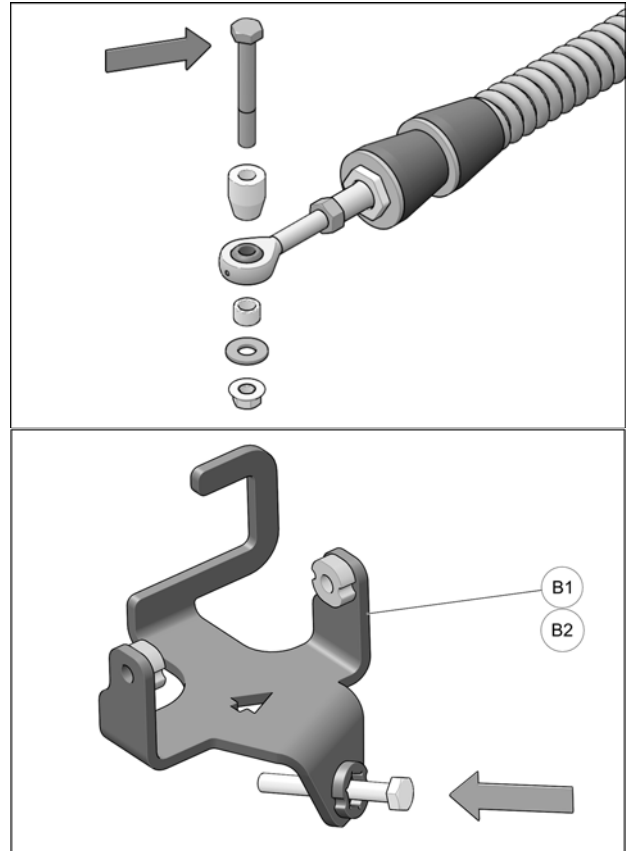

Fig. 3
4. Remove bolt, washers and spacer bushings from rear stabilizing rod end and insert bolt in the rear anchor bracket (B1-B2) as shown in Fig. 3